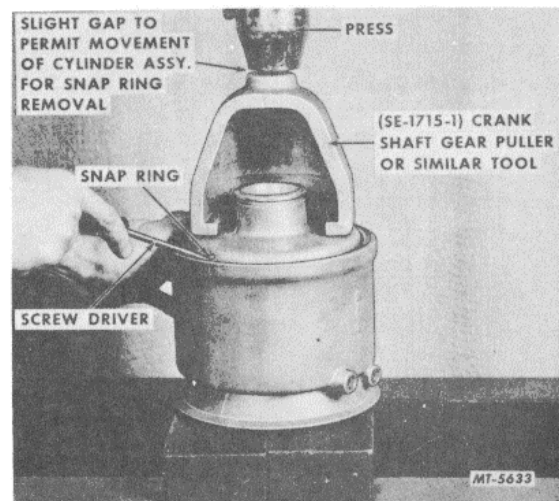

Fig. 11 Removing Snap Ring.
Push rod should travel into parking spring brake chamber. If push rod does not travel into chamber, this can indicate a damaged head, spring or piston. **CAUTION:** With a damaged piston, the heavy spring in the parking brake unit is no longer restricted and could be forcefully expelled when snap ring retaining head to cylinder case is removed. When the above condition exists or when in doubt as to the spring being restricted, use a tool similar to SE17151 (crankshaft gear puller) under press during disassembly of the cylinder, Fig. 11. Release air pressure from parking spring brake chamber.
8. With assembly under tool (SE17151 or similar tool) and press, remove snap ring, Fig. 11. **NOTE:** Snap ring removal may be somewhat difficult due to a sealer applied over the snap ring and snap ring groove.